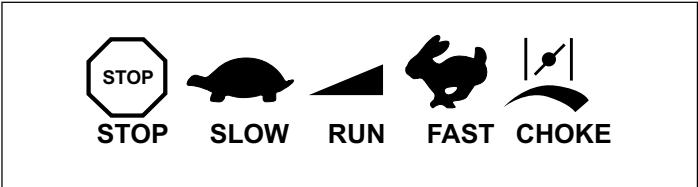

Figure 14. Typical Engine Symbols
2. Move independent speed control to "FAST" position and set independent choke control to "FULL CHOKE" position (see equipment manufacturer's instructions). See Figures 14, 16, and 17.